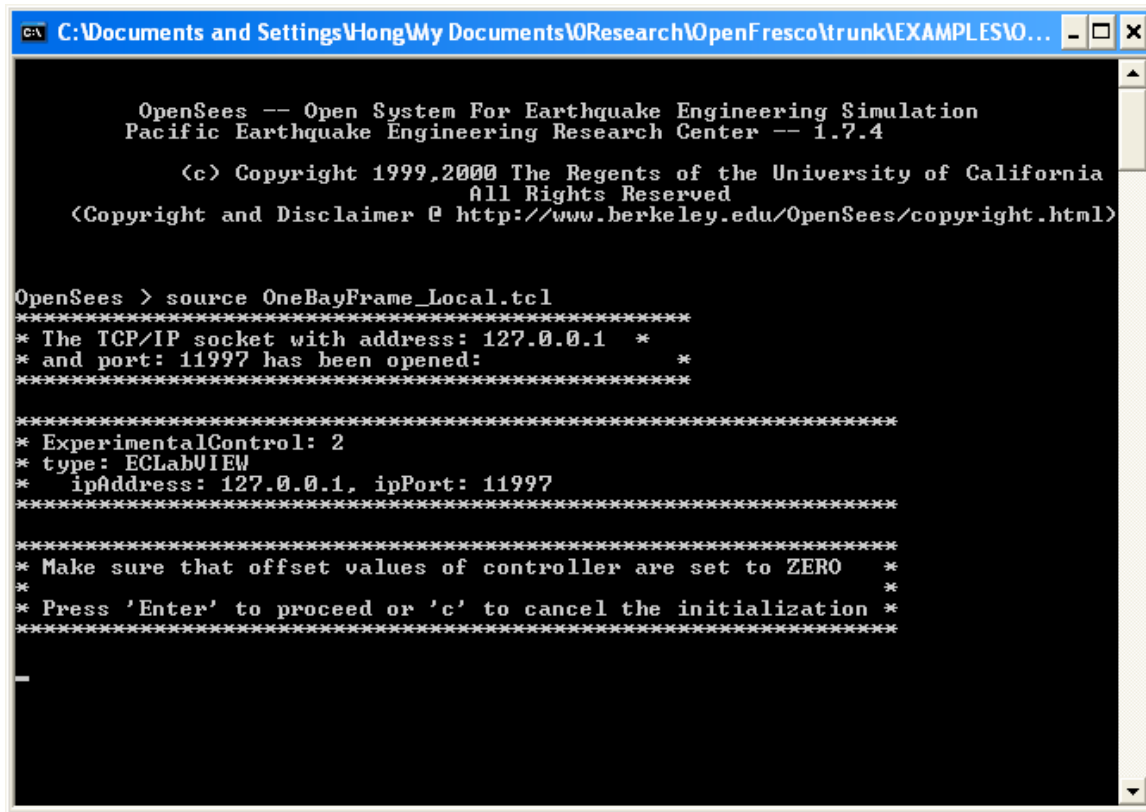

Figure 8: OpenSees Command Window for Local Test.
- At the command window prompt, type **source OneBayFrame_Local.tcl** and hit **enter** (Figure 8).